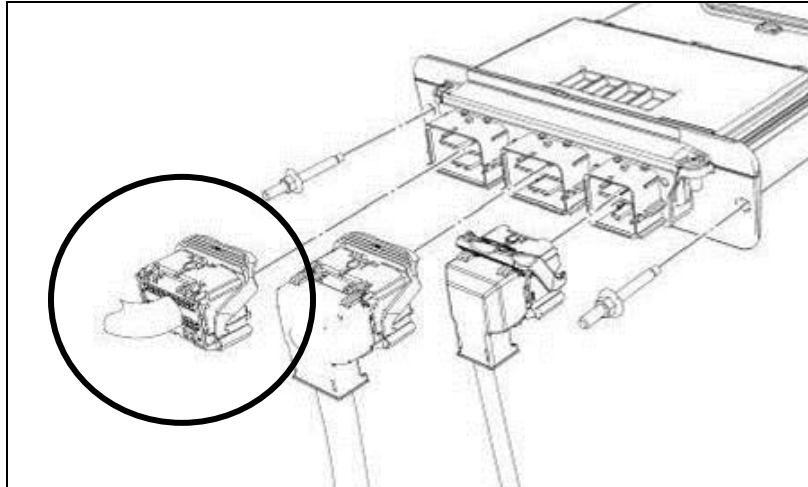

Figure 1
1. You will be working with the far left 70 pin or "cowl" connector. (See figure 1 below).